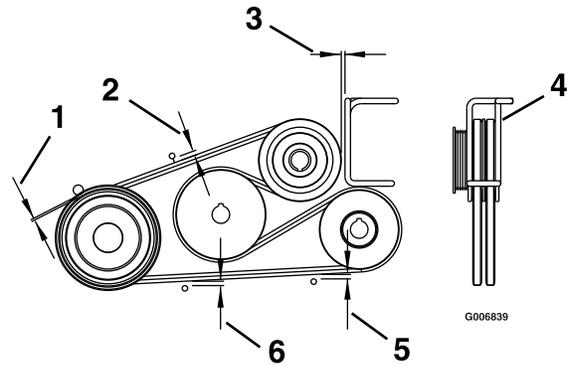

**Figure 50**
6. Route the new belt onto the sheaves as shown in the decal located on the back of the left drive shield (Figure 50).